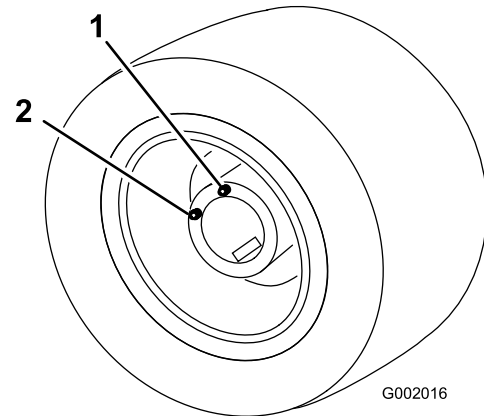

Figure 83
5. Move the vehicle slowly until the wheel is positioned as shown in Figure 83.